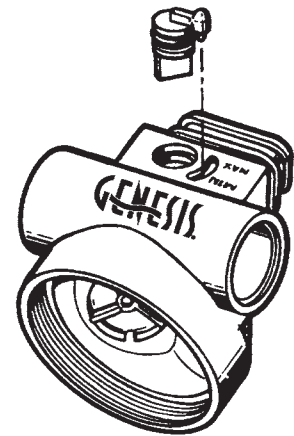

Figure 4
1. Lubricate the o-ring (item 22) and install it into the o-ring groove in the vane adjustment switch (item 21).
2. Install the Vane Adjustment Switch into the hole on the top of the mouth tube of the case (item 23). Make sure the pin on the switch is in the groove in the case. *Figure 4*.